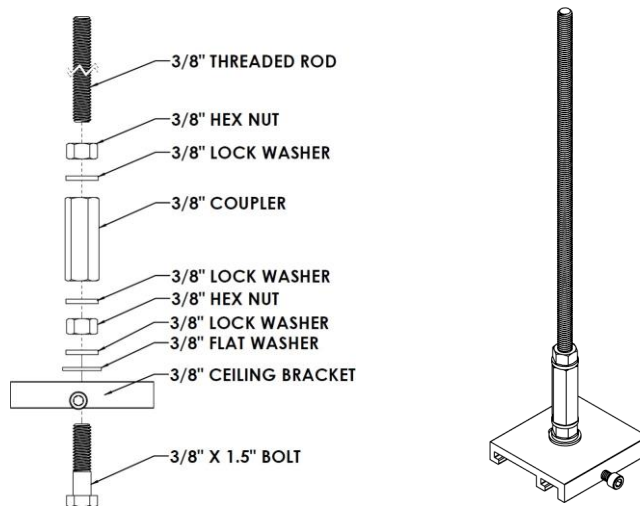

Figure 130: **Homecare Hardware Kit (HHK)**
- Figure 130 diagrams this assembly.